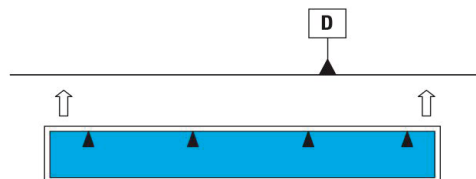

Fig. 5: Mounting Surface Reference Edge = D
1. Scale direction/orientation: Orient the scale such that the "arrow-heads" on the blue protective film are pointing towards the mounting surface reference edge "D" as shown in the Fig. 5.